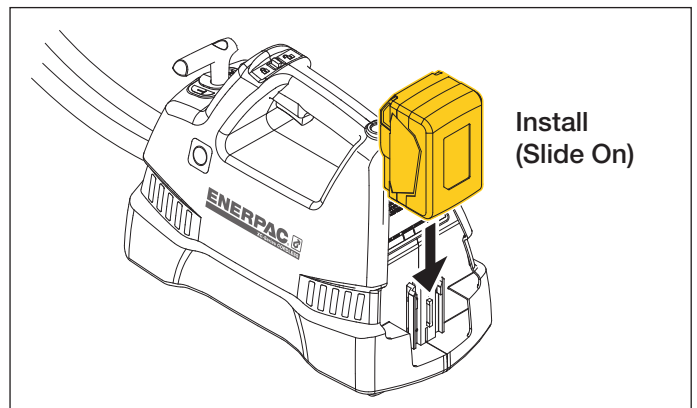

Figure 7, Battery Pack Installation
- **To install battery pack on pump:** Slide the pack down onto the bracket at the rear of the pump. Make sure it latches securely into place. See Figure 7.